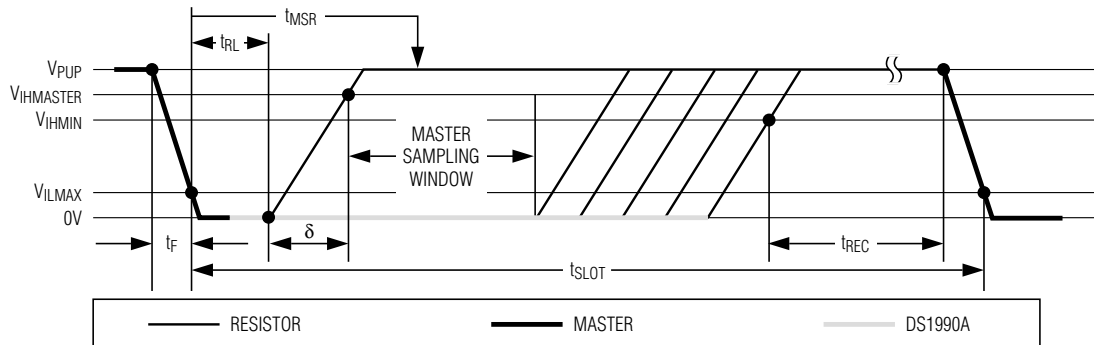

Figure 7. Read/Write Timing Diagram
- Note 14:** ϵ in Figure 7 represents the time required for the pullup circuitry to pull the voltage on IO up from V_{IL} to V_{IH} . The actual maximum duration for the master to pull the line low is $t_{W1LMAX} + t_F - \epsilon$ and $t_{W0LMAX} + t_F - \epsilon$, respectively.
- Note 15:** δ in Figure 7 represents the time required for the pullup circuitry to pull the voltage on IO up from V_{IL} to the input-high threshold of the bus master. The actual maximum duration for the master to pull the line low is $t_{RLMAX} + t_F$.
Data communication with the DS1990A takes place in time slots that carry a single bit each. Write time slots transport data from bus master to slave. Read time slots transfer data from slave to master. The definitions of the write and read time slots are illustrated in Figure 7.